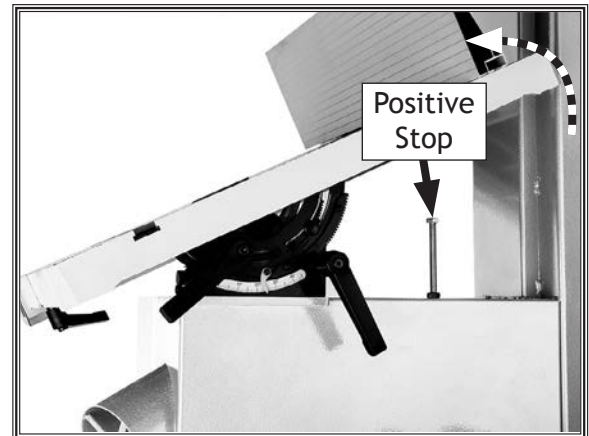

Figure 74. Table tilted to approximately 10° right to adjust positive stop.
The positive stop (see **Figure 74**) allows you to quickly return the table to 0° from a right-tilt setting. The hex bolt height can be adjusted for table calibration, or it can be lowered to allow a left-tilt setting of up to 5°.
2. Loosen hex nut, then rotate adjustment bolt until table contacts bolt when at 0° (see **Figure 74**).